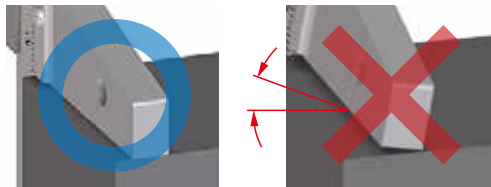

Fig. 5
1. Perform measurement while the reference surface is fully in contact with the workpiece. (**Fig. 5**)